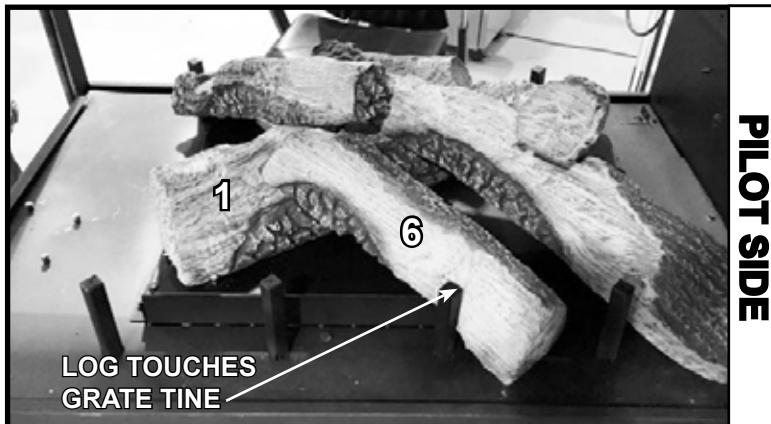

Figure 8. Log #6 Installed
- Place Log #6 on the flat spot of Log #1. Use the grate tine for accurate placement of the log as shown in Figure 8.